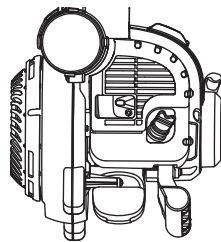

Fig. 16
- Place the engine on a level surface (Fig. 16).